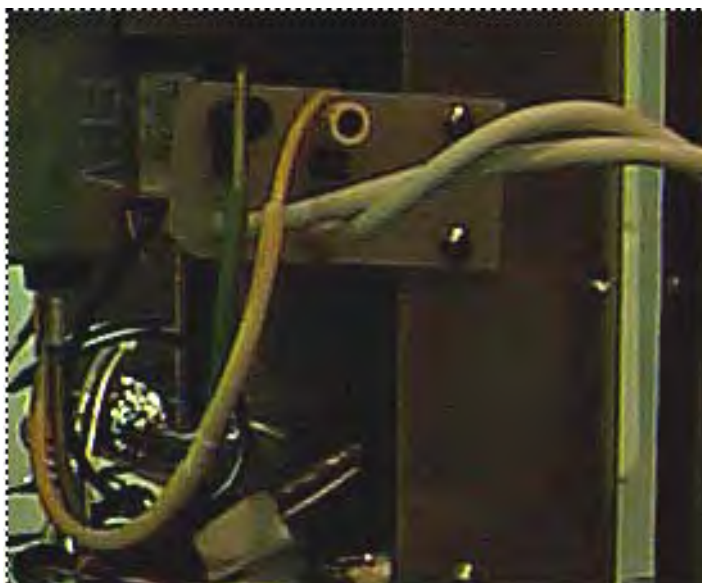

Figure: 4-5 HV Binding Post Removal
- (1) Remove all power from the MTR Up and tag the display to indicate the system is not to be energized.
- (2) Using a 10mm socket and ratchet, loosen 12 captive cover screws on the pedestal's left and right side covers of the pedestal and swing covers open.
- (3) Locate and disconnect the green and yellow high voltage leads at E1 and E2 of the HV Binding Post Bracket, Figure: 4-5.
- (4) Remove two screws, lock washers, and flat washers and the binding post bracket from the pedestal casing.